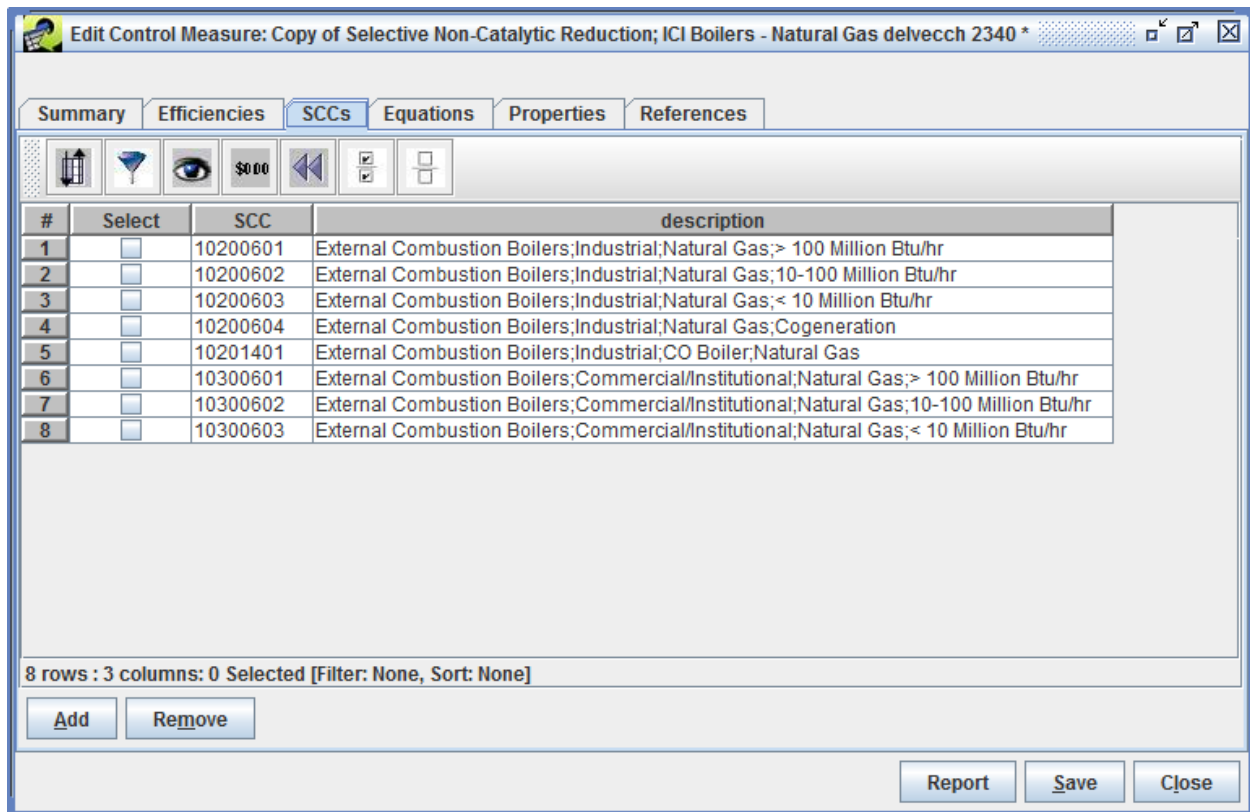

Figure 3.21: SCCs Tab of Edit Control Measure Window
**Step 4-10: Edit Control Measure SCCs.** Click on the **SCCs** tab on the **Edit Control Measure** window to show the SCCs for inventory sources to which the edited measure can be applied. SCCs may be added or removed for a measure from this window. An example of this tab is shown in Figure 3.21.
in Figure 3.21, a few additional SCCs (i.e., the ones starting with 101 and 105) are also relevant for this measure.
**Step 5-4: Adding a New Control Measure: SCCs.** Go to the **SCCs** tab of the New Control Measure window and add at least one SCC record for the measure; otherwise it will have no effect on any emissions sources. The SCC tab for the new measure will look similar to Figure 3.21, except initially there will be no SCC records. Note that the same control efficiency and cost information must apply to all sources with SCCs listed on this tab, otherwise the information must be stored in a separate measure for the other SCCs. For more information on the data needed for SCCs, see Section 2 and Section 4.